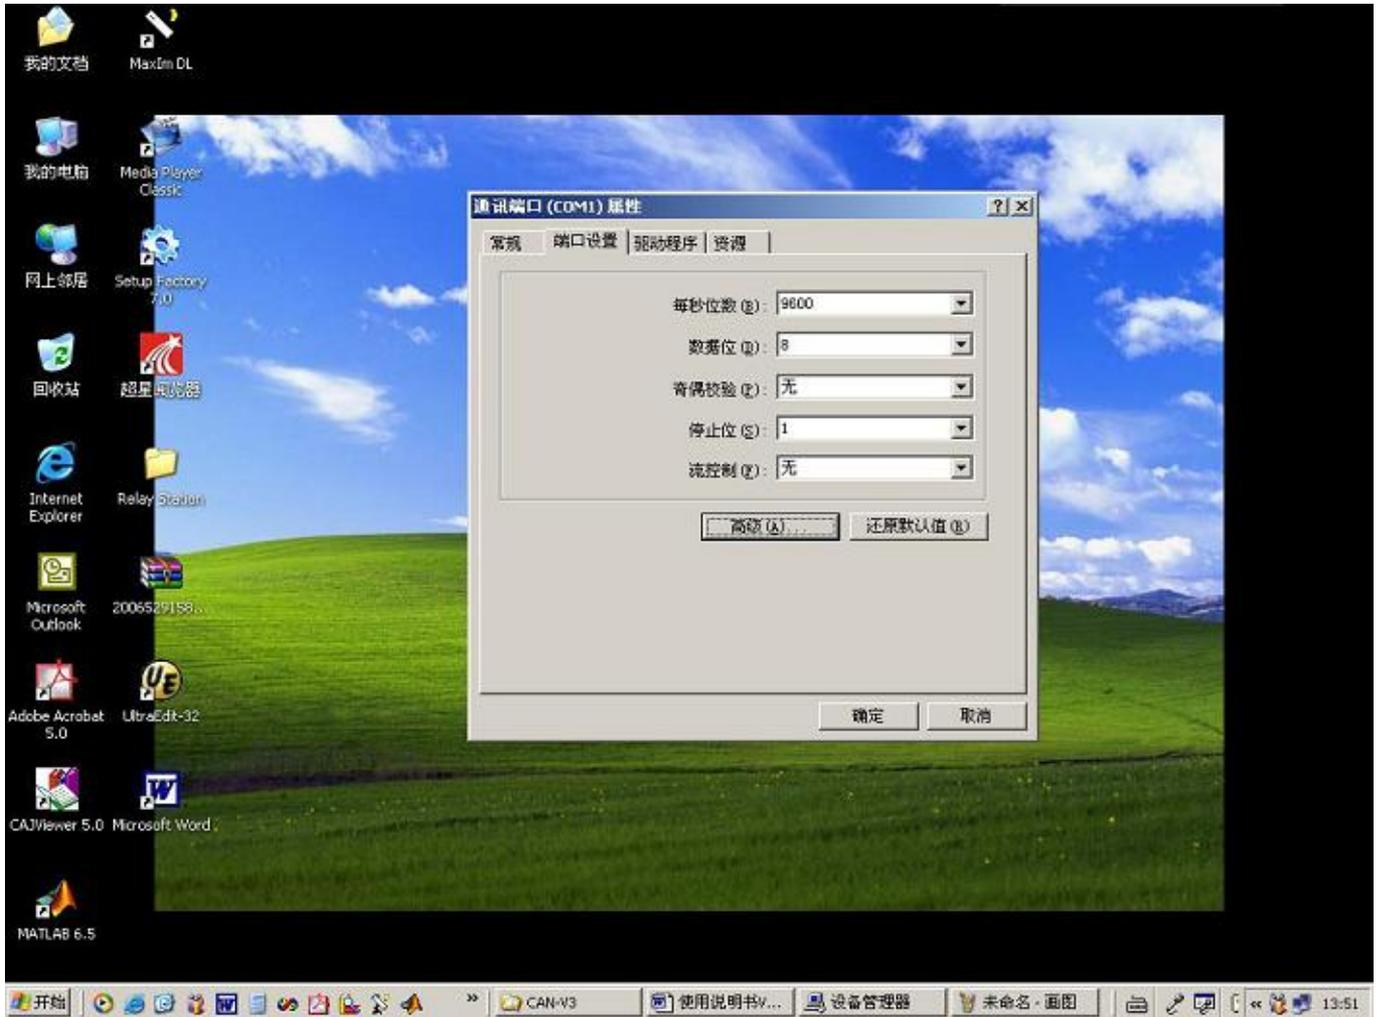

fig 35 Port attribute
- (1) Right click “My computer” → “Attribute”, then popup “System attribute” dialog;
- (2) Click the “hardware” sheet, then click device manager, then popup the interface of device manager;
- (3) Double click the ” USB Serial Port (COM*)” in the “Ports(COM 和LPT)” node, then popup “USB Serial Port (COM*) attribute” dialog;
- (4) Click the button “Advanced” in sheet “Port Setup”, then popup “COM*’s advanced setup” dialog;
- (5) Select “COM port number” to one of not in using COM1 to COM4, eg. COM1, then click “OK”, return the “USB Serial Port (COM1) attribute” dialog;
- (6) Configure the specific port as show in fig 35, then click “OK”.